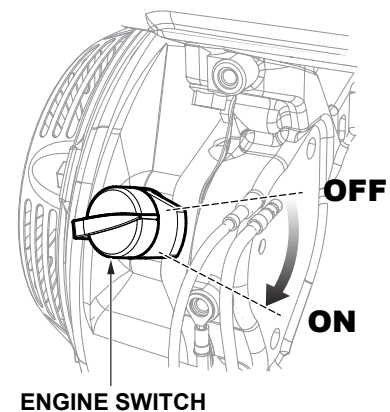

Figure 25. Engine ON/OFF Switch (ON)
4. Turn the engine **ON/OFF** switch to the **ON** position (Figure 25).